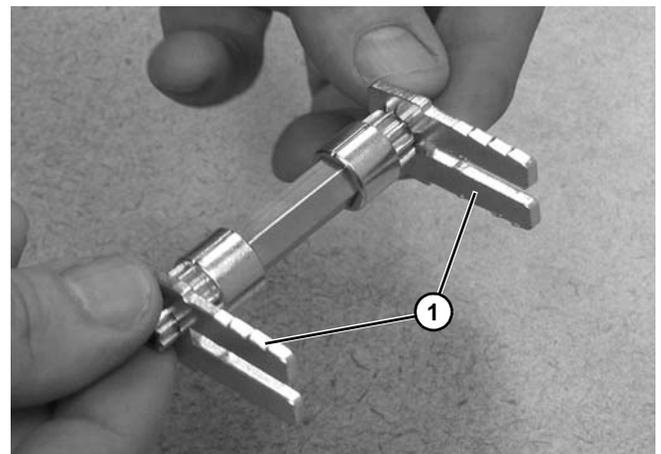

Figure 148
6. Slide on retaining plates (**Figure 148, item 1**).